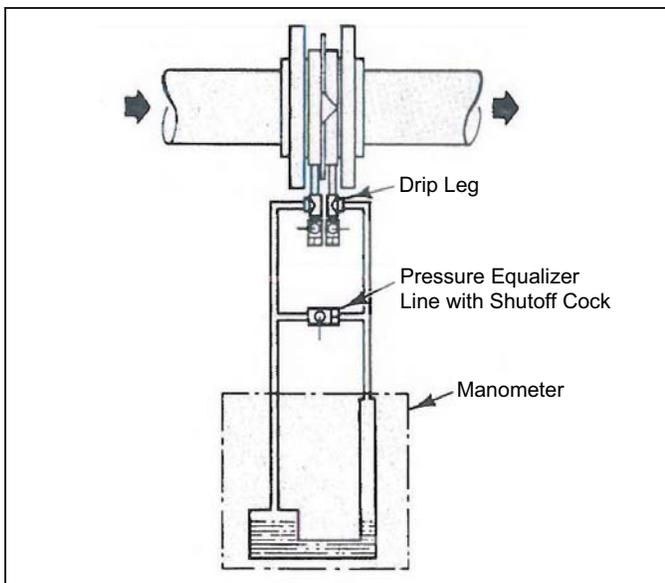
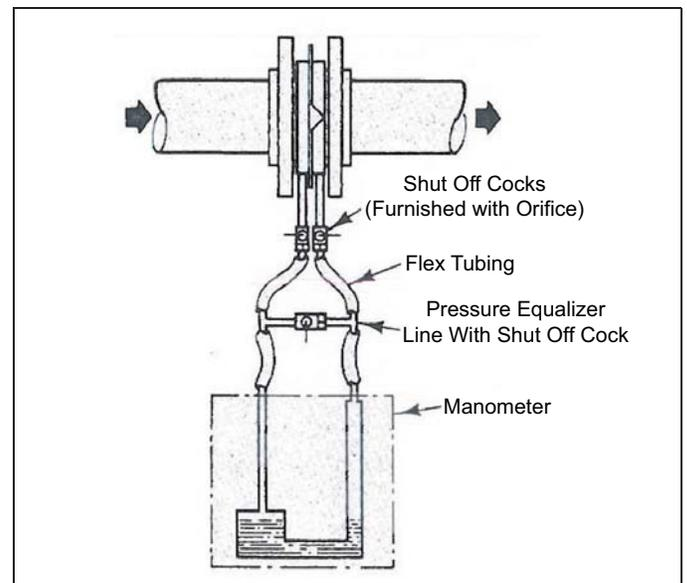

Figure 7. Constant Monitoring System
Figure 8. Portable Monitoring System
3. A pressure equalizing line with shut off cock should be installed between the impulse line on both constant (Figure 7) and portable (Figure 8) monitoring systems. This will protect the measuring instruments from damage due to pressure surge on start up and make it possible to check the instruments "Zero" without disconnecting lines.
4. On constant monitoring systems where there is the possibility of moisture in the lines, drip legs should be provided. See Figure 7.
1. On constant monitoring systems, be sure the cock in the equalizer line is open before starting system. See Figure 7.
2. When portable measuring instruments is used, open the cock in the equalizer line before opening cocks in pressure lines. See Figure 8.